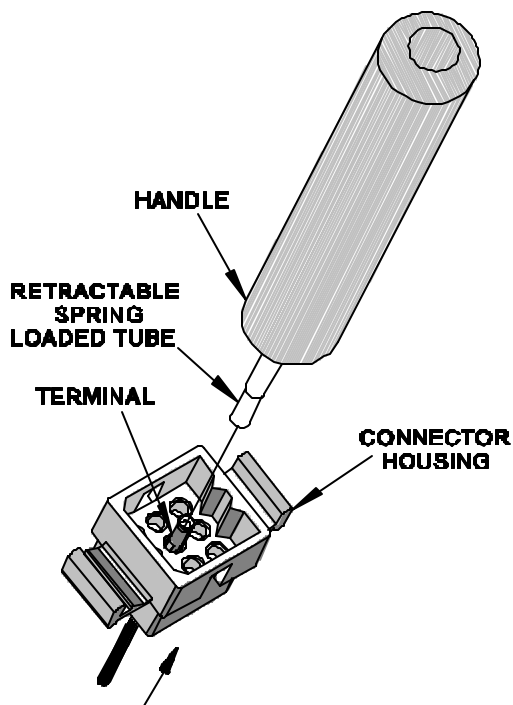

Figure 1
- 1) The Extractor Tool must be **In Line** with the terminal as shown. Push terminal forward in arrow direction before using the Extractor Tool (Figure 1).